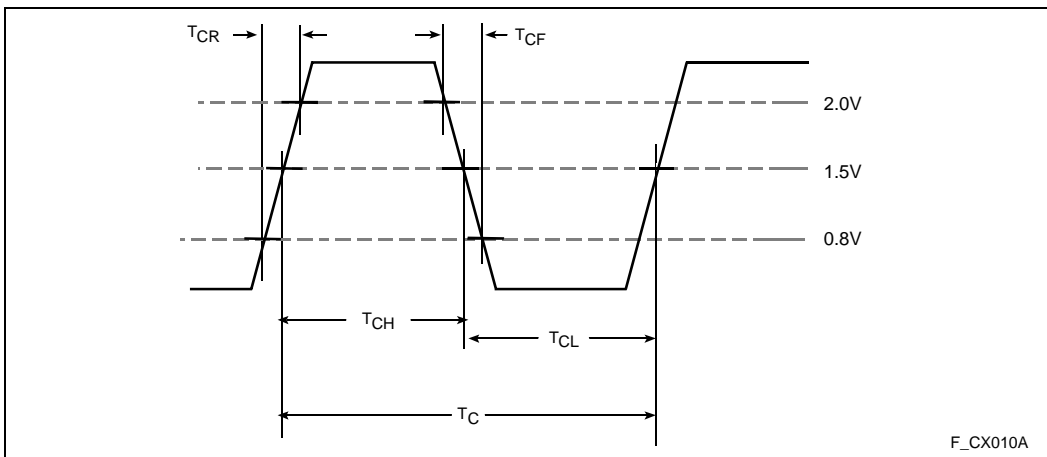
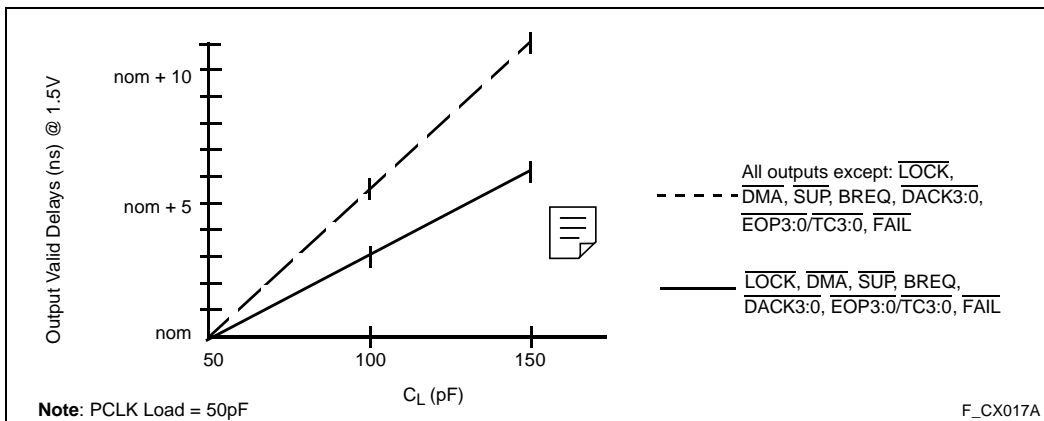

**Figure 7. AC Test Load**
Figure 16. Output Delay or Hold vs. Load Capacitance
- See Figure 16 for capacitive derating information for output delays and hold times.
The AC Specifications in Section 4.5 are tested with the 50 pF load shown in Figure 7. Figure 16 shows how timings vary with load capacitance.